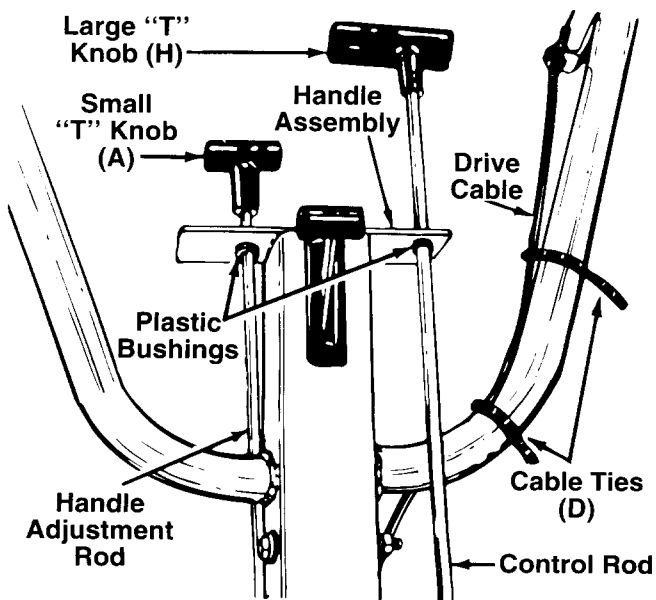

FIGURE 11.
18. Insert the threaded end of control rod up through the plastic bushing on the left side of handle assembly. See figure 11. Thread the large "T" knob (H) on the end of control rod.
19. Insert the threaded end of handle adjustment rod up through the plastic bushing on the right side of handle assembly. Thread the small "T" knob (A) on the end of handle adjustment rod.
22. Secure drive cable to left handle using cable ties (D). Refer to figure 11. Cut off excess end of cable ties.